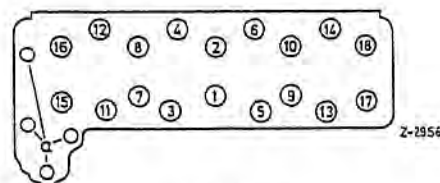

Fig. 01-4/1
18. Tighten the cylinder head screws in the proper sequence and step by step as shown in Fig. 01-4/1.